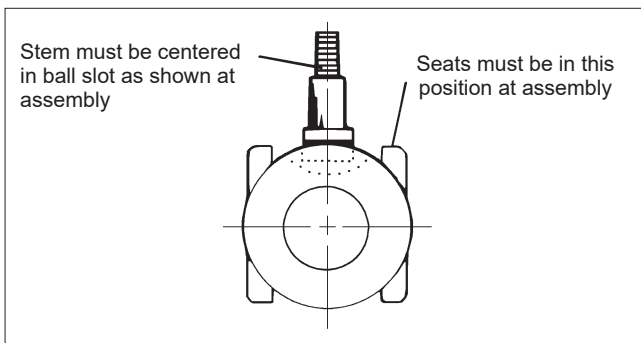

Figure 4
5. Slide one valve seat (7) sideways into the body (1) to below the stem bore, and tilt it into place so that the proper surface **(see Figure 4)** will be adjacent to the ball (3), being careful not to cut or scratch the seat.
6. From the inside, insert the thrust bearing (70), secondary stem seal (71), and the second of two thrust bearings into the stem bore.
10. Place the valve in a vertical position, insert end up, on a clean surface such as a folded rag or a piece of cardboard. Place the spring (36) in the hole in the bottom of the stem (5). Insert the ball (3) rotating it onto the stem (5) in the closed position, being careful not to dislodge the spring from the stem. If necessary, turn the stem blade to align with the ball slot. Make certain that the stem blade is in the middle of the ball slot, i.e., equal distance from the ends of the slot. Rotate the ball if necessary. **(See Figure 4.)**